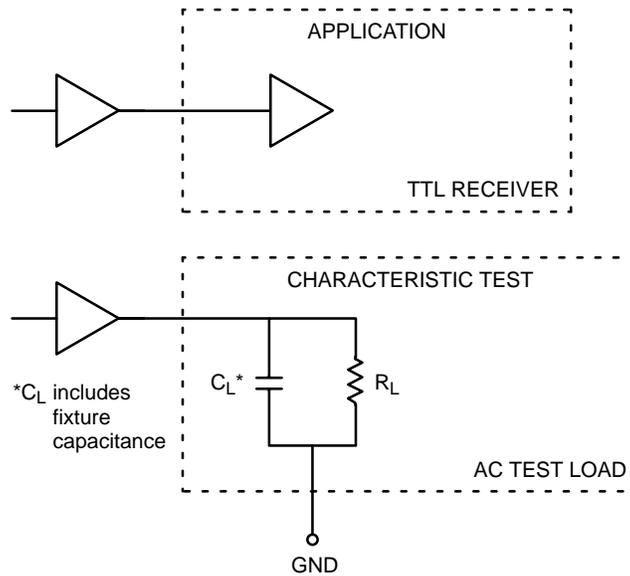

Figure 2. TTL Output Loading Used for Device Evaluation
11. $R_L = 500\ \Omega$ to GND and $C_L = 20\text{ pF}$ to GND. Refer to Figure 2.